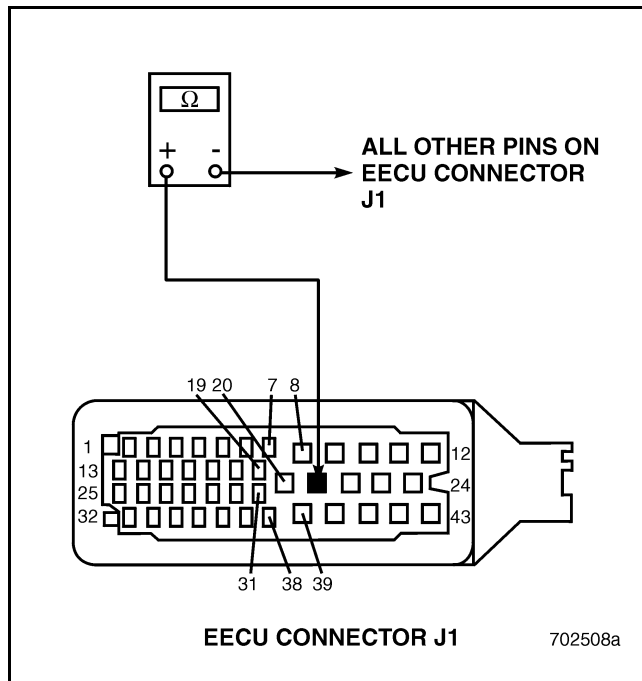

Figure 420
4. Install the purple male test lead found in the J 38581 V-MAC Jumper Wire Kit into EECU harness connector J1, pin 21. Check for continuity between EECU harness connector J1, pin 21 and all other pins in EECU harness connector J1 (see Figure 420).